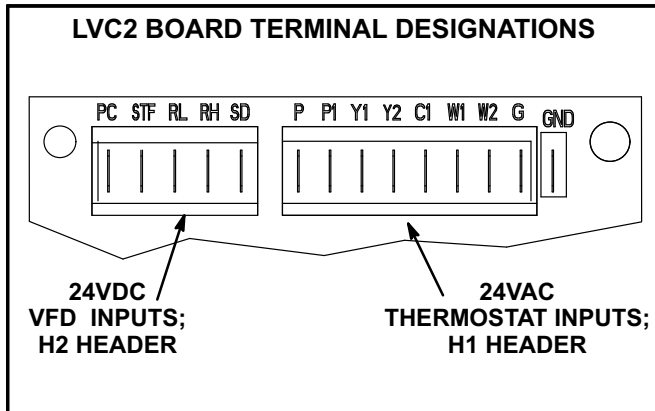

FIGURE 20
- 3- Check for 24VAC signal at the thermostat blower input (G to GND terminal). See figure 20.